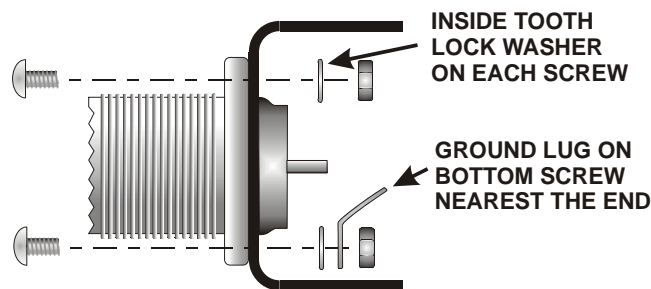

Figure 37. Mounting the Antenna Connector J1 on the Back Panel.
- Mount antenna connector J1 on the cabinet back panel using four 5/16" 4-40 pan head zinc or stainless steel screws, lock washers, nuts and one ground lug as shown in Figure 37. Be sure the ground lug is on the lower screw nearest the end of the back panel and faces upward as shown. The antenna connector is an S0-239 (UHF) connector on the XV50 transverter, and a type "N" connector on the XV144 and XV222 transverters.